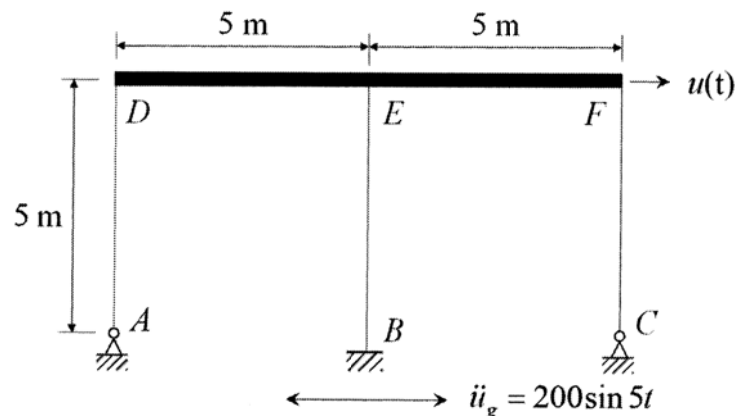

Figure 2
2. One story shear building shown in Fig. 2 is subjected to the ground shaking. The section of each column is 10 cm by 10 cm. The unit weight of the floor is 2000 N/m. The input ground acceleration is $200 \sin 5t$ (cm/sec²). It is assumed the damping ratio of the system is 5% and the modulus of elasticity E for the column is 2×10^5 N/cm². Please determine the maximum relative displacement on the top of the column, and the maximum shear force for column A and column B . (20%)